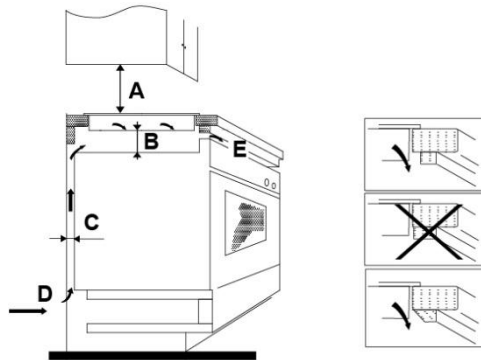

Fig.2
- The base of the cooktop must have direct unrestricted ventilation to the room where the cooktop is installed. Follow the requirement of figure 2.